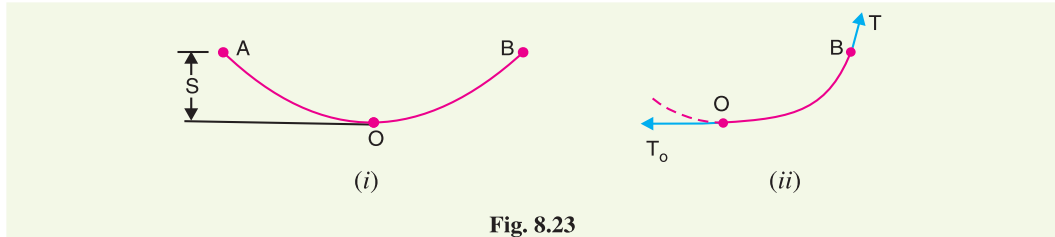

Fig. 8.23
Fig. 8.23. (i) shows a conductor suspended between two equilevel supports  $A$  and  $B$ . The conductor is not fully stretched but is allowed to have a dip. The lowest point on the conductor is  $O$  and the sag is  $S$ . The following points may be noted :
- (ii) The tension at any point on the conductor acts tangentially. Thus tension  $T_O$  at the lowest point  $O$  acts horizontally as shown in Fig. 8.23. (ii).